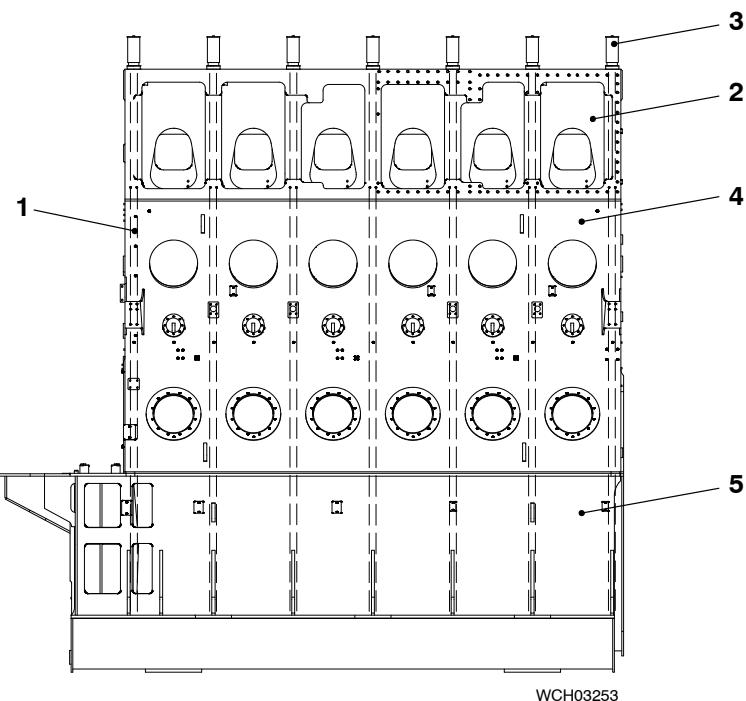

Fig. 1: Tie Rod Configuration and Locations
The tie rods (1, Fig. 1) keep the cylinder block (3), column (4) and bedplate (5) together at four locations around the cylinders.